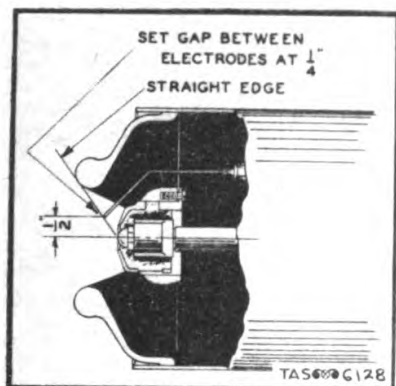

Fig. 128. Setting Electrode Points on Combustion Head Assembly.
h. Electrode assemblies. (1) The position of the electrodes with respect to the atomizing nozzle is important, and the width of the gap between the electrodes is also very important.
(2) On units having magneto-ignition of the burner mixture the points should be set $1/4$ -inch apart, $1/2$ -inch above the center line of the nozzle orifices, and in a line drawn between the center line of the nozzles and the lip of the cast iron deflector as shown in figure 128.
(3) On units having transformer-ignition the points should be drawn back so that there is about $1/16$ -inch clearance between them and a straight edge located as in figure 128. The gap between electrodes should be $1/4$ -inch.